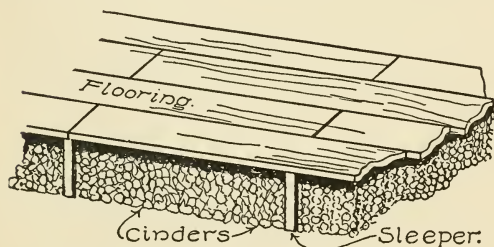

FIG. 186. — Construction of Floor.
**The Floor** should not be laid directly upon the ground, but be supported upon four-inch sleepers set as shown in Fig. 186, with cinders rammed in between them. The bed of cinders should not be more than three inches thick, so there will be an inch of air space between them